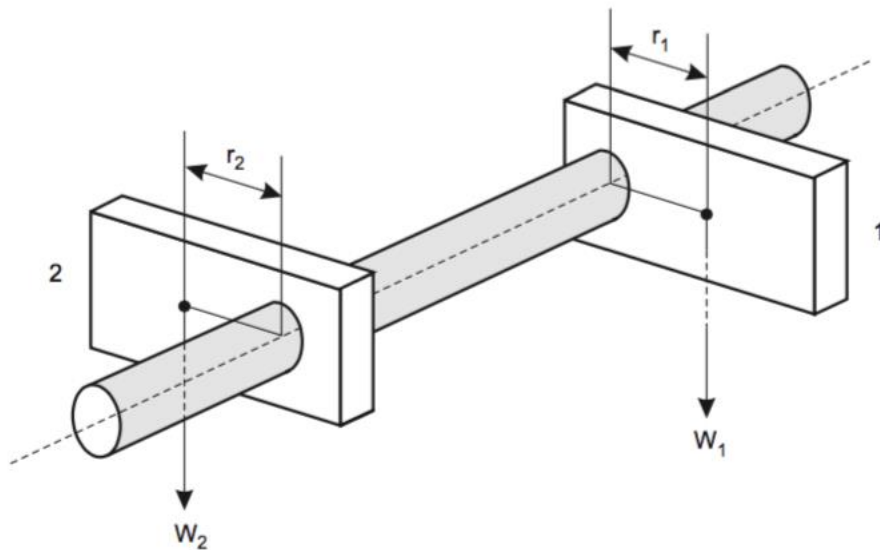

Figure 3: Static balancing of a simple two-masses system
- Applying condition 1 to the shaft in figure 3 gives: